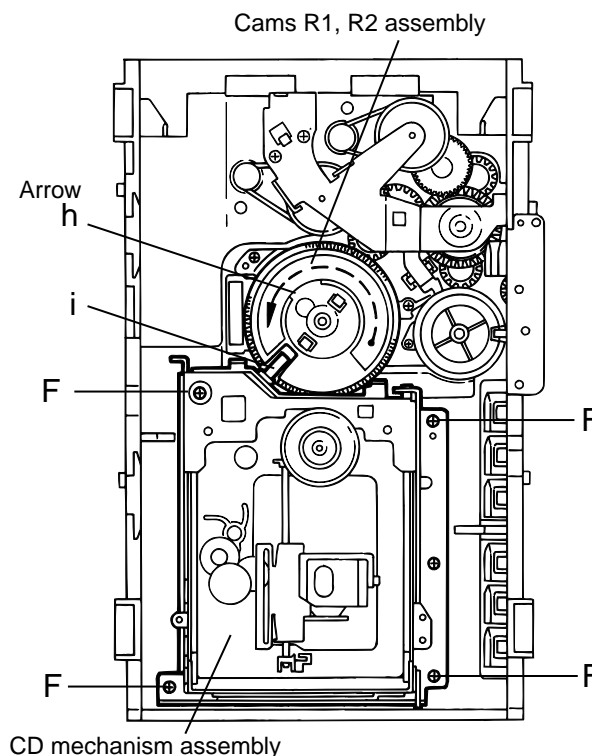

Fig.10
■ Removing the CD mechanism assembly (See Fig.10)
1. While turning the cams R1 and R2 assembly in the arrow direction "h", align the shaft "i" of the CD mechanism assembly to the position shown in Fig.10.